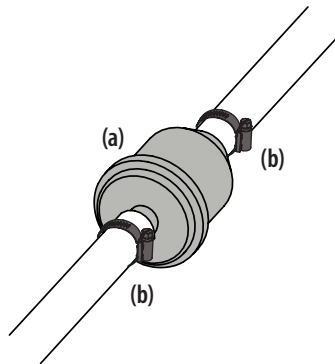

Figure 5-34
5. To remove the in-line fuel filter clamps (b), slide the clamps (b) away from the in-line fuel filter (a). Twist and pull the fuel lines off of the in-line fuel filter (a). See Figure 5-34.